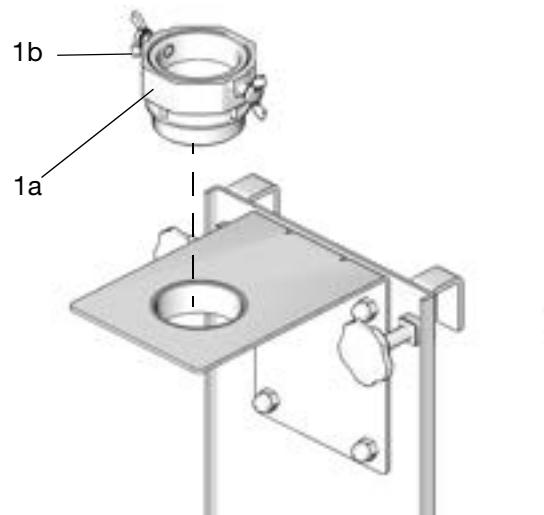
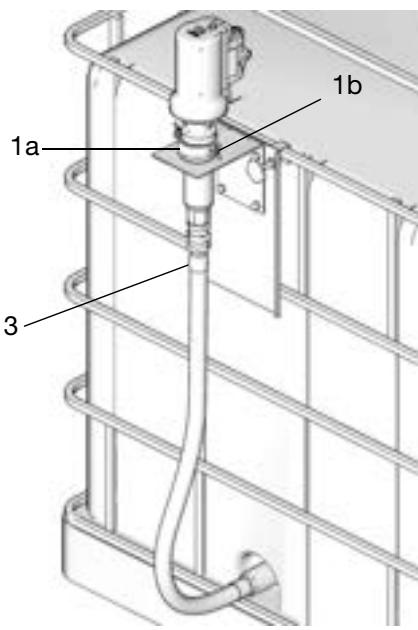

FIG. 13
FIG. 14
3. Thread the pump bung adapter (1a) into the hole in the pump bracket assembly. Hand tighten securely (FIG. 13).
4. Insert the pump (1) through the bung adapter (1a) (FIG. 14). Secure the pump in place by tightening the gasket screws (1b) (FIG. 13 and FIG. 14).